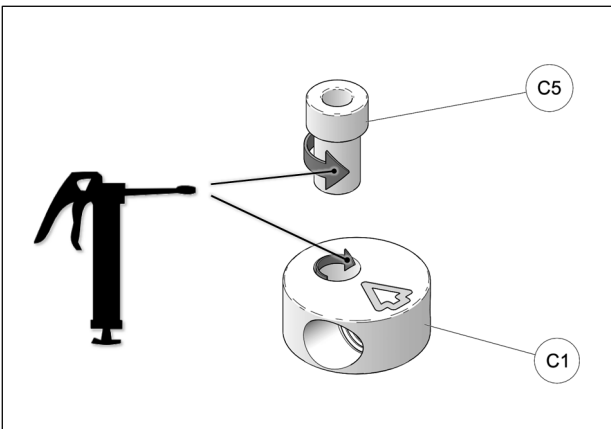

Fig. 23
11. Apply grease evenly all around step spacer bushing (**C5**) and in hole of aluminum disk (**C1**) when assembling these parts together. See Fig. 23